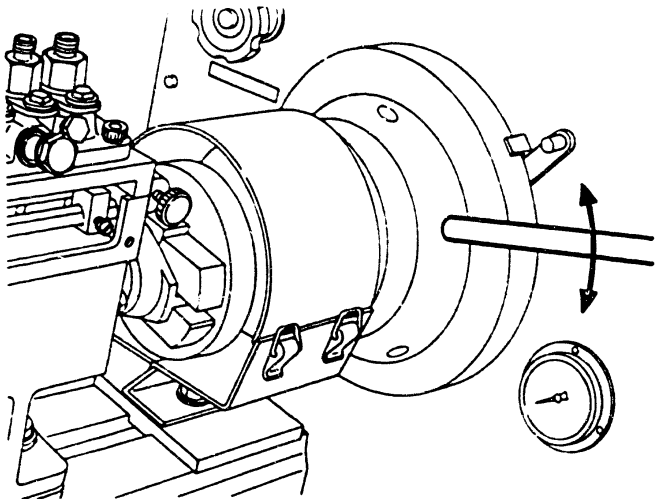

Fig. 57 Confirming flywheel rotation
6. Securely connect the driving stand's coupling to the pump test stand's coupling. (Figure 57)